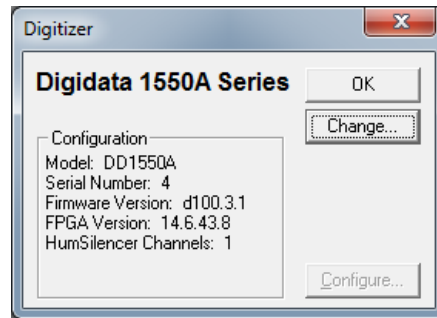

Figure 2-4: Digitizer dialog displaying active configuration
5. Click **OK** to exit the **Change Digitizer** dialog (Figure 2-4 on page 15).